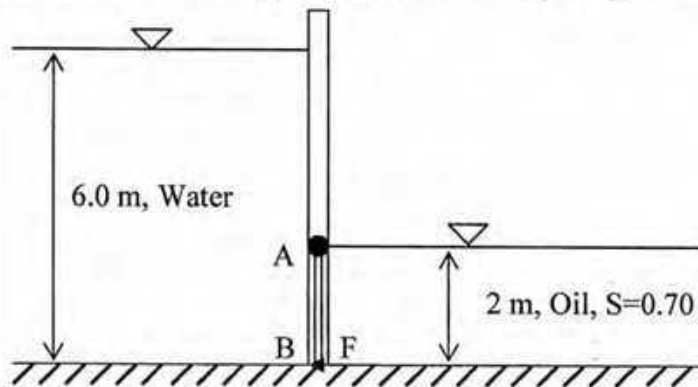

Figure 3
- c. The following Figure 3 shows a gate AB hinged at the end A. If the gate is 1.5 m wide, calculate the horizontal force (F) required at B to keep the gate in equilibrium. 13